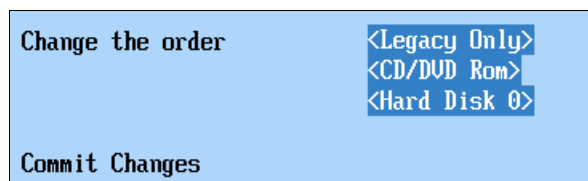

Figure 6-53 Example of a boot order
5. Select **Change Boot Order** and change the boot order to look like Figure 6-53.
5. Select **Change Boot Order** and change the boot order to look like Figure 6-53 on page 276.